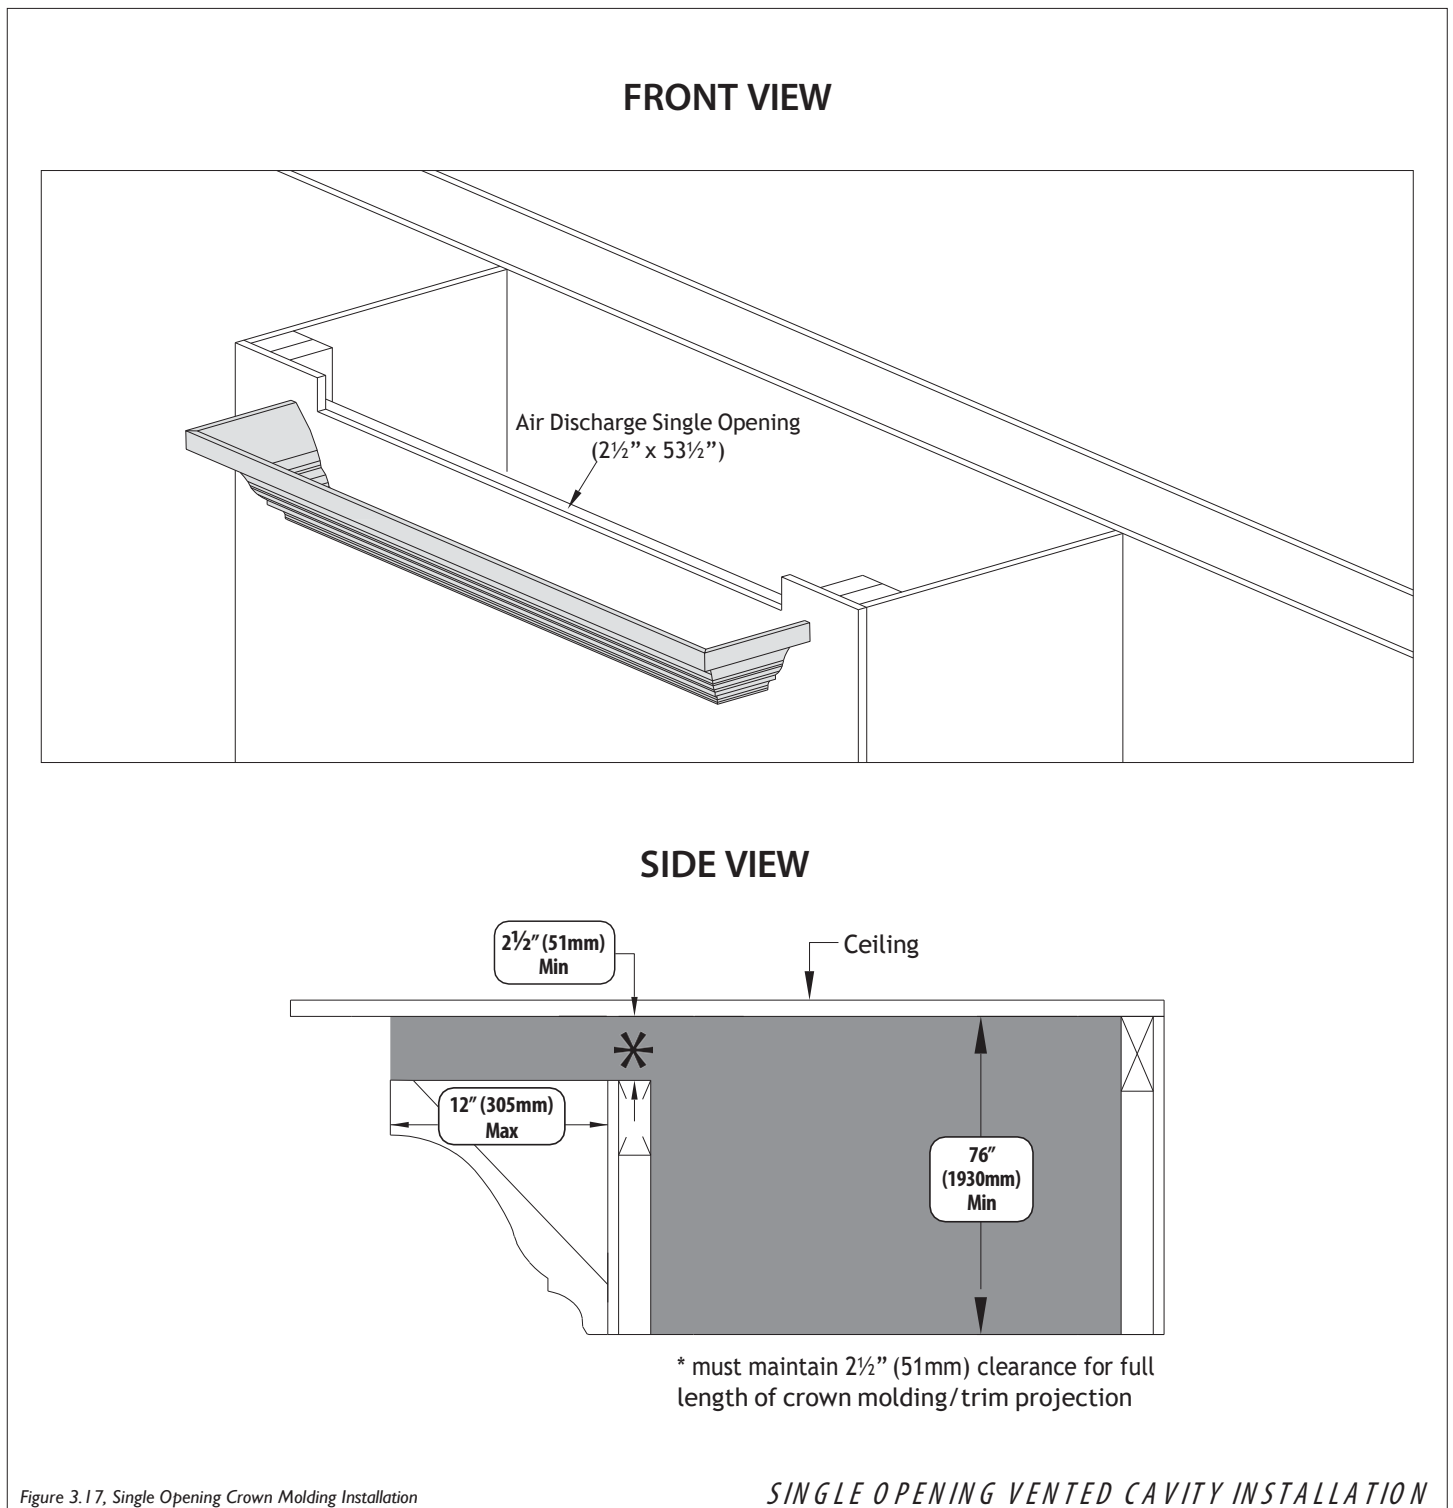

Figure 3.17, Single Opening Crown Molding Installation
- Figure 3.17 shows the installation of crown molding or similar trim work that goes up to the edge of the air discharge opening. 12" (305mm) is the maximum length of the molding or trim projection and you must maintain 2-1/2" (51mm) clearance for the full length of crown molding/trim projection. This molding or trim cannot decrease the minimum opening requirement.